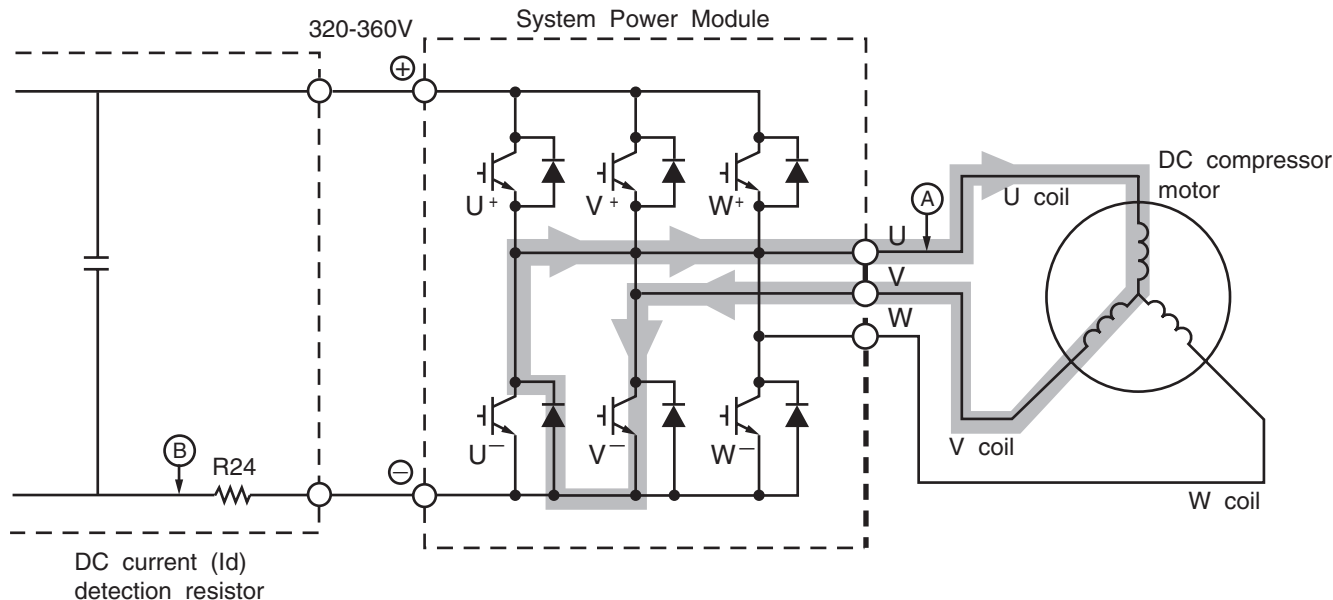

Fig. 3-4 System Power module circuit (U+ is OFF, V- is ON)
※ At point F: U+ is chopped (OFF), V- is ON (circuit in Fig. 3-4)
- (2) When U+ transistor is OFF: (by inductance of motor coil) U coil → V coil → V- transistor → Return diode → Point ① (Fig. 3-4)